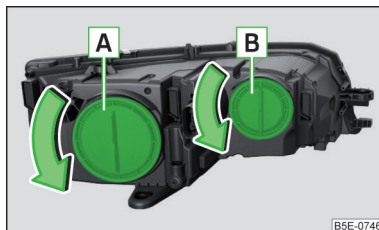

Fig. 355
Bulb arrangement » Fig. 355
- › Turn the protective cap **A** » Fig. 355 on page 301 in direction of the arrow.
- › Insert the protective cap **A** » Fig. 355 on page 301 and turn it opposite to the direction of the arrow.
- › Turn the protective cap **B** » Fig. 355 on page 301 in direction of the arrow.
- › Insert the protective cap **B** » Fig. 355 on page 301 and turn it opposite to the direction of the arrow.